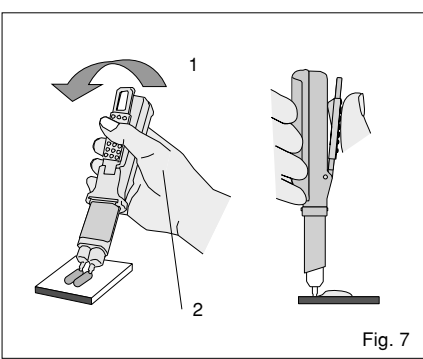

Fig. 7
- c. While depressing the lever, level and cut off the extruded material from the tips of the cartridge by moving the cartridge and dispenser to an upright position on the mixing pad. (Fig. 7)